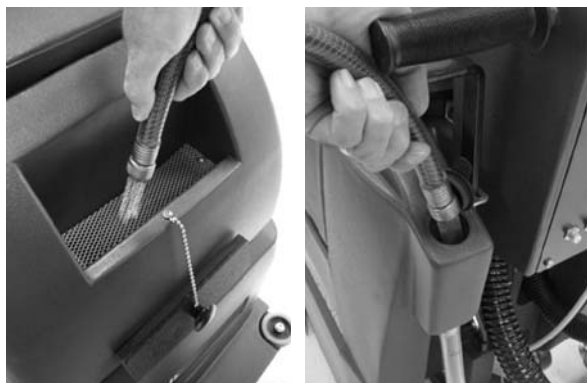

FIG. 13
3. Remove fill-port cover at front of machine and fill solution tank with 17 gal / 64 L of clean water, 140°F / 60°C maximum temperature. Or use the rear fill port to fill solution tank. Pull off plug and insert hose to fill. The clear tube below the fill port has 5 gal / 19 L increment markers to indicate amount of water in tank (Figure 13).